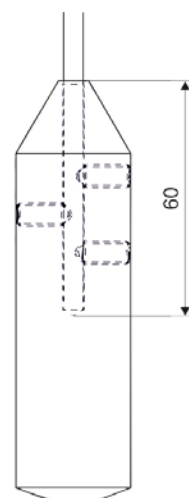

Fig. 27: Scheme of the weight for the rope electrode
2. Rod electrodes are advised to be shortened by using a suitable hacksaw and deburr the end of the electrode. For the rope electrode is needed to loosen three fixing screws on the weight and pull out the rope end, see Figure 27. Make sure that the rope length after trimming is correct - the cable is embedded in weight to approx. 60 mm. Shortening the rope is best done by means of side cutting pliers. Take care to avoid fraying of the rope end.